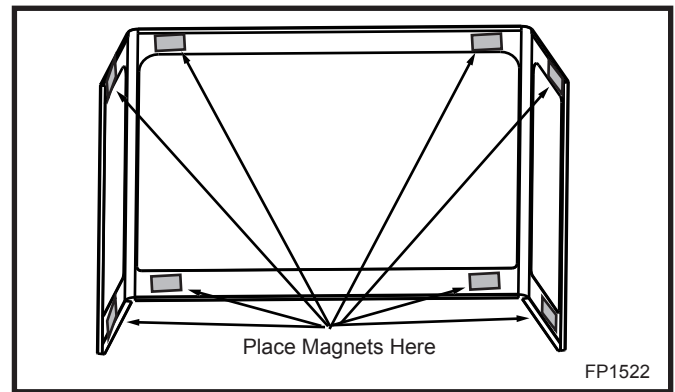

Fig. 40 RFSDV34TKA magnet locations.
3. Attach the magnets to the trim. (Fig. 40)